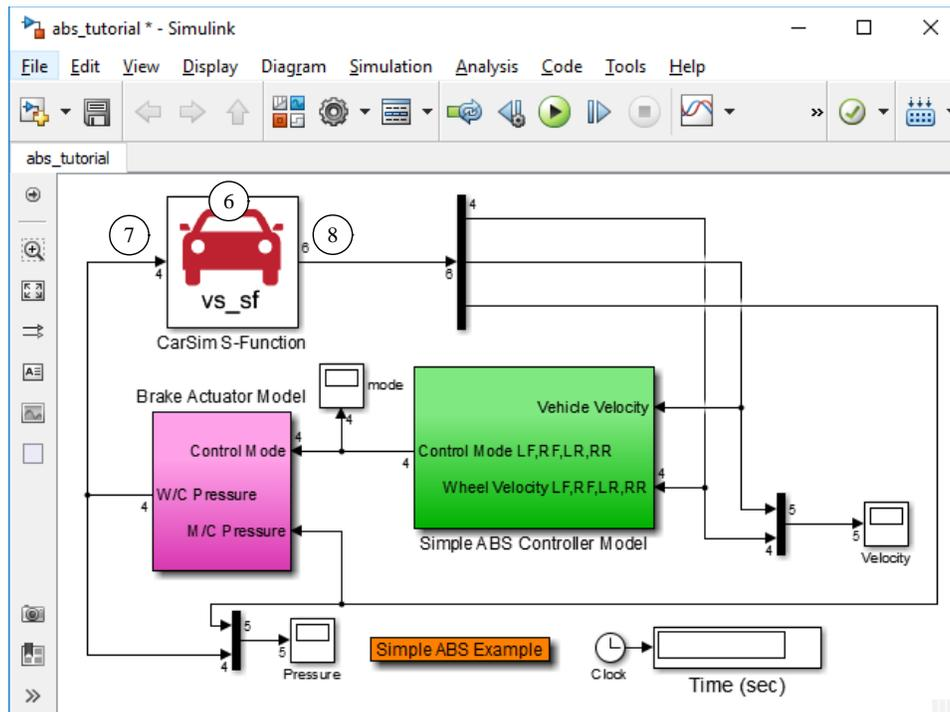

Figure 17. Simulink model with one vehicle S-Function.
- When making the Simulink model, you add the S-Function by dragging it as shown in the figure (5) to the intended location (6). You next connect input (7) and output signals (8), as you would do with any block (Figure 17).